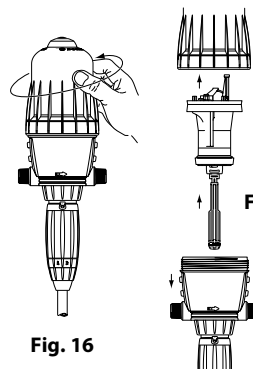

Fig. 16
- Unscrew and remove bell-housing by hand (Fig. 16).